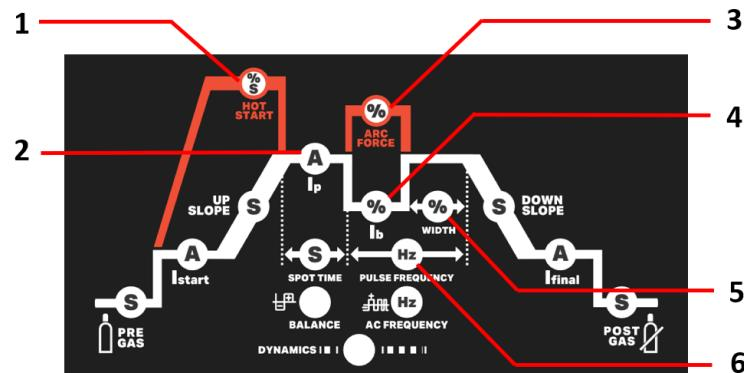

Fig. 2 – MMA parameters
**MMA welding****For TP 324-504 ACDC** (See items in Fig. 2)
- Adjust the current value to the diameter of the electrode (Fig.2 - 2), according to the following table, to adjust the machines according to the electrode to be used and start welding